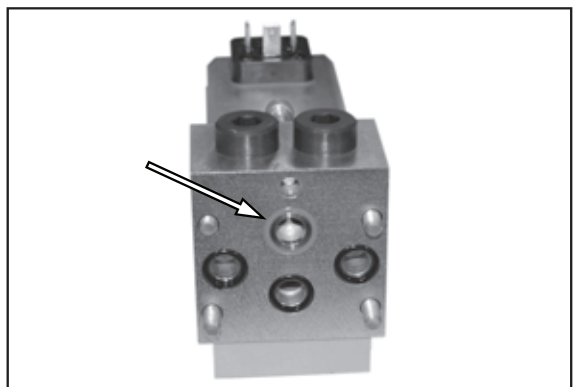

Figure 45.
3. See Figure 45. Remove the 2-position/4-way valve. Clean and inspect the o-rings. Replace as necessary.